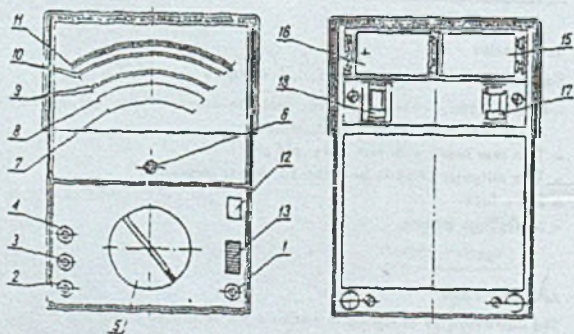

Fig. 2
20. Fig. 2 gives external appearance.
1. Adjust pointer to mechanical "zero", by means of zero adjuster knob Fig. 2 (6).
2. Press polarity switch (12) marked "+".
3. Select the required or the highest measuring range by means of switch knob (5).
4. Connect leads to jacks (2), (1), marked "+", "-", and for measurements of currents higher than 0.5 A, connect leads to jack (1) marked "-" and jacks (4) or (3) marked "1.5" or "15 A" respectively.